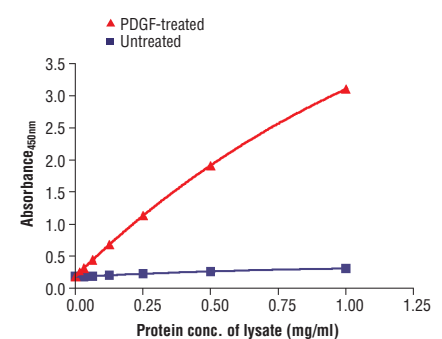

Figure 2. The relationship between the protein concentration of the lysate from untreated and PDGF-treated NIH/3T3 cells and the absorbance at 450 nm is shown.
**Specificity/Sensitivity:** PathScan® Phospho-p44/42 MAPK (Thr202/Tyr204) Sandwich ELISA Kit #7177 detects endogenous levels of phospho-p44/42 MAPK when phosphorylated at Thr202/Tyr204 in human and mouse cells, as shown in Figure 1. The kit sensitivity is shown in Figure 2. This kit detects proteins from the indicated species, as determined through in-house testing, but may also detect homologous proteins from other species.
**Background:** Mitogen-activated protein kinases (MAPKs) are a widely conserved family of serine/threonine protein kinases involved in many cellular programs such as cell proliferation, differentiation, motility, and death. The p44/42 MAPK (Erk1/2) signaling pathway can be activated in response to a diverse range of extracellular stimuli including mitogens, growth factors, and cytokines (1-3) and is an important target in the diagnosis and treatment of cancer (4). Upon stimulation, a sequential three-part protein kinase cascade is initiated, consisting of a MAP kinase kinase kinase (MAPKKK or MAP3K), a MAP kinase kinase (MAPKK or MAP2K), and a MAP kinase (MAPK). Multiple p44/42 MAP3Ks have been identified, including members of the Raf family as well as Mos and Tpl2/Cot. MEK1 and MEK2 are the primary MAPKKs in this pathway (5,6). MEK1 and MEK2 activate p44 and p42 through phosphorylation of activation loop residues Thr202/Tyr204 and Thr185/Tyr187, respectively. Several downstream targets of p44/42 have been identified, including p90RSK (7) and the transcription factor Elk-1 (8,9). p44/42 are negatively regulated by a family of dual-specificity (Thr/Tyr) MAPK phosphatases, known as DUSPs or MKPs (10), along with MEK inhibitors such as U0126 and PD98059.